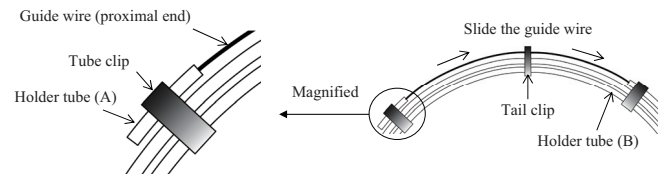

Figure 1
- d) Release the guide wire from the tail clip and slide the guide wire slowly, push distal end of the guide wire through the holder tube(B).(Figure 1)